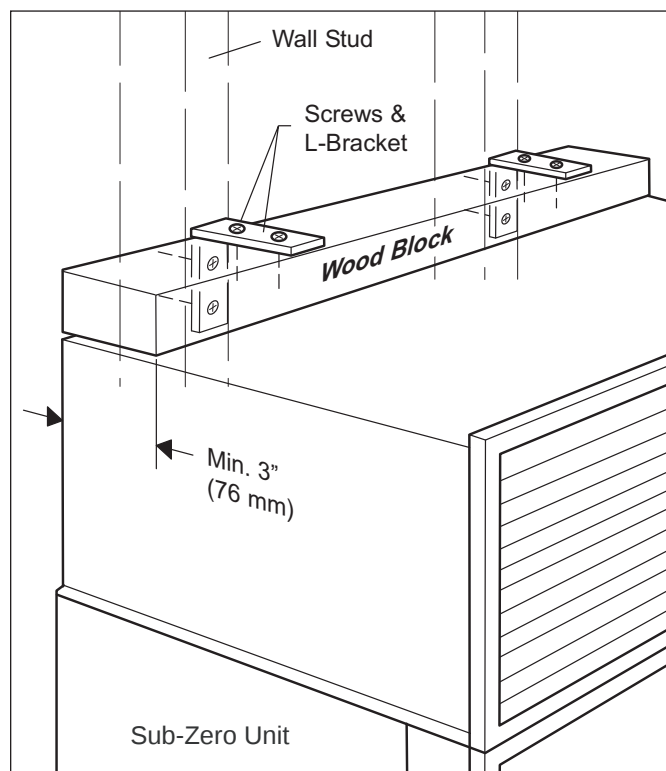

Figure 2-1. Anti-Tip Components
1. Locate and mark two wall studs at back of unit installation location (See Figure 2-1).
2. Identify and mark proper height to clear unit top. Space between unit top and bottom of wood block must NOT be more than 1/4" (6 mm) (See Figure 2-1).
3. Using the L-brackets and screws provided, secure wood block to wall studs, located in step 1, making sure screws extend 7/8" (22 mm) into each wall stud. The wood block must extend a minimum of 3" (76 mm) over unit (See Figure 2-1).